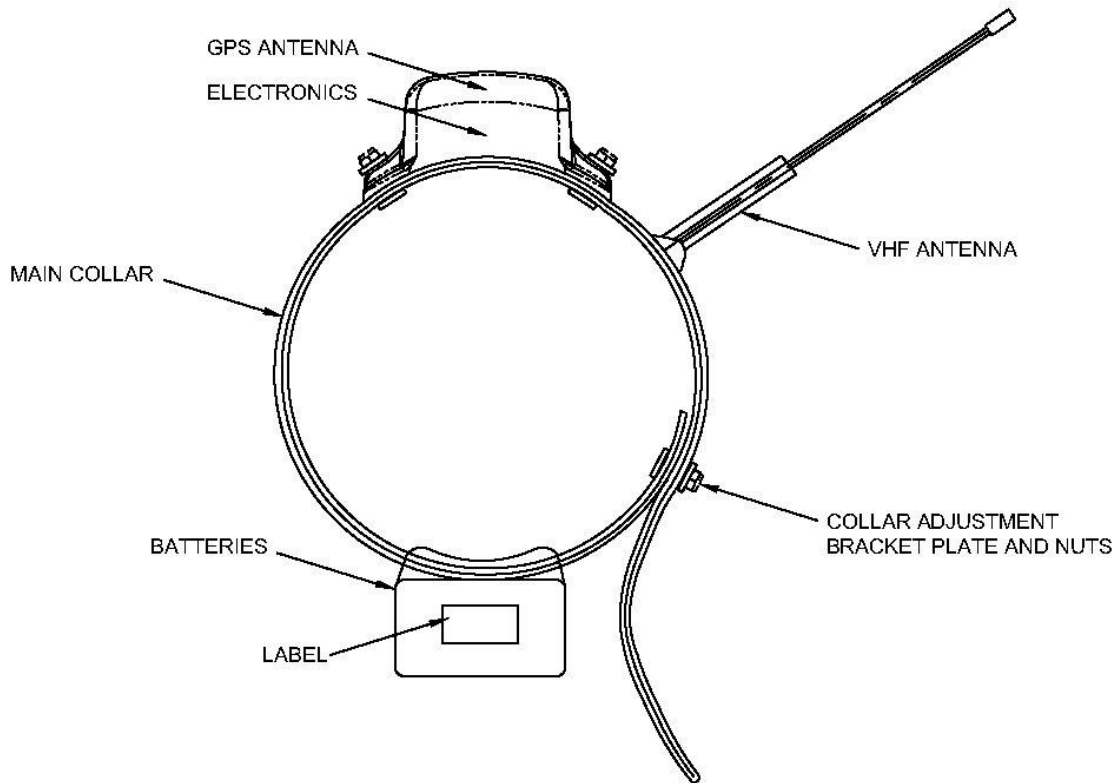

Figure 5. Collar attachment (G5 Series)
Your collar has been optimized according to the collar dimensions specified during ordering. The size of the collar is determined by the collar adjustment bracket and the main collar holes (see Figure 5). To adjust the collar and/or attach the collar to an animal, the procedure is as follows (some differences may exist between models):
2. Wrap the collar around the animal's neck so that the extra length (if any) of the main collar hangs from the collar (as shown in Figure 5). The extra length may also be tucked inside the collar as well and may even be cut if desired (but only for external VHF antenna collars).